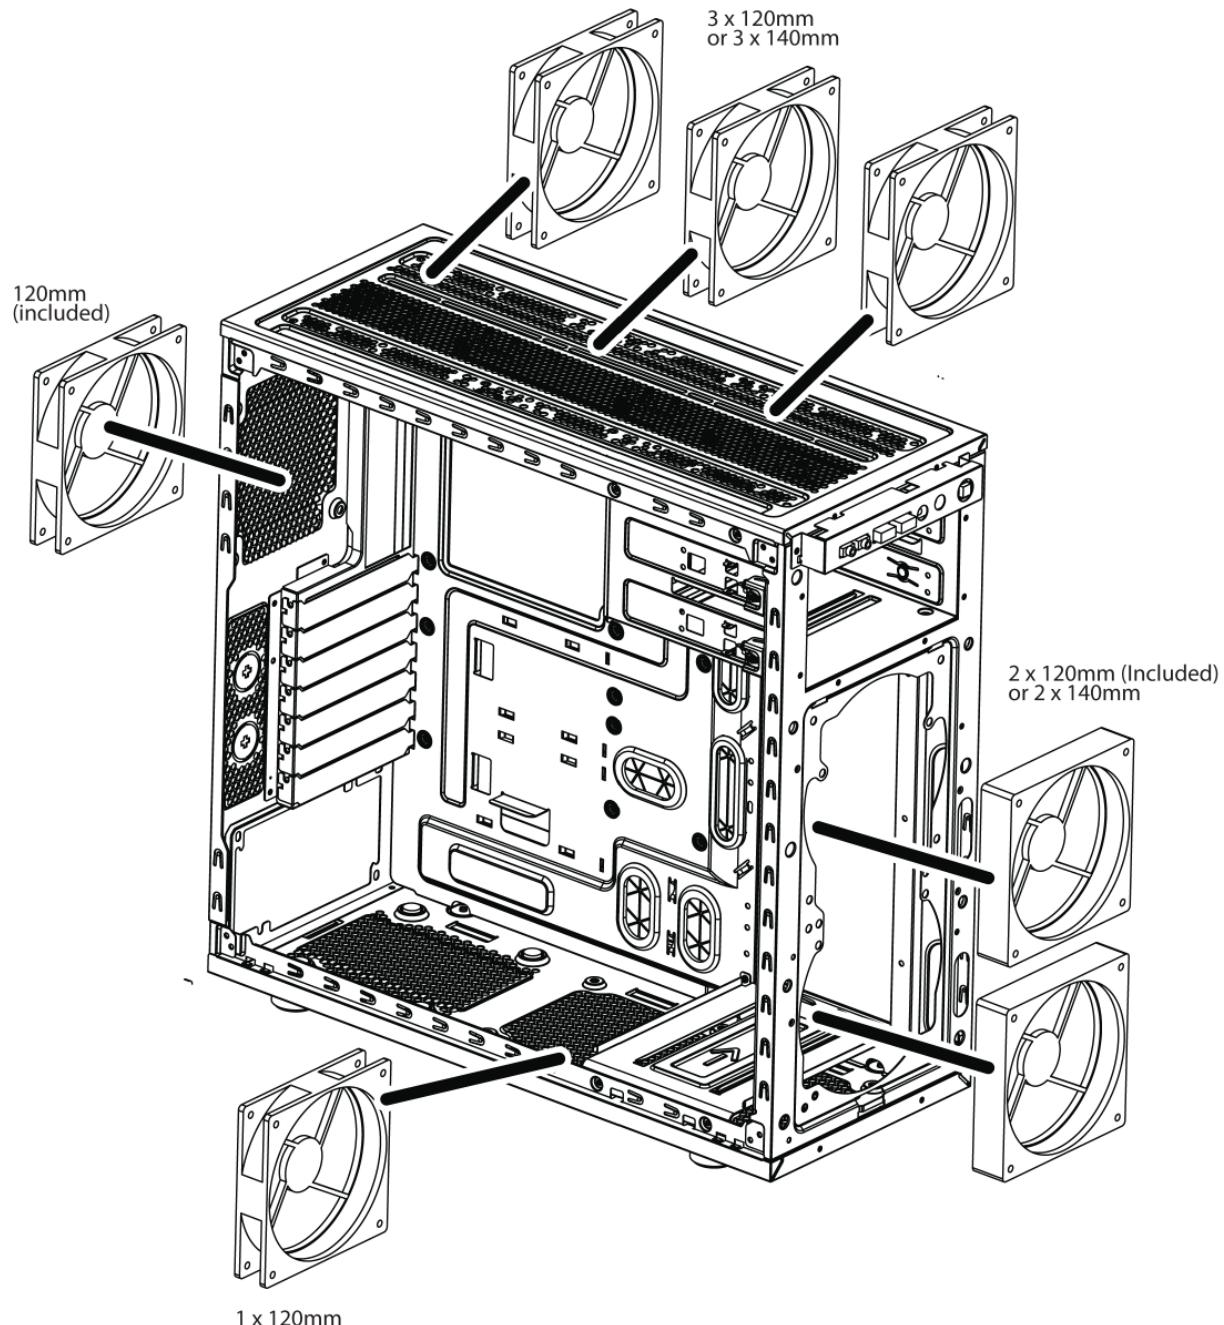

Figure 3-9. All Possible Fan Placements
- To add a fan to the chassis bottom, the lower 3.5" HDD cage must be removed. See Figure 3-9.